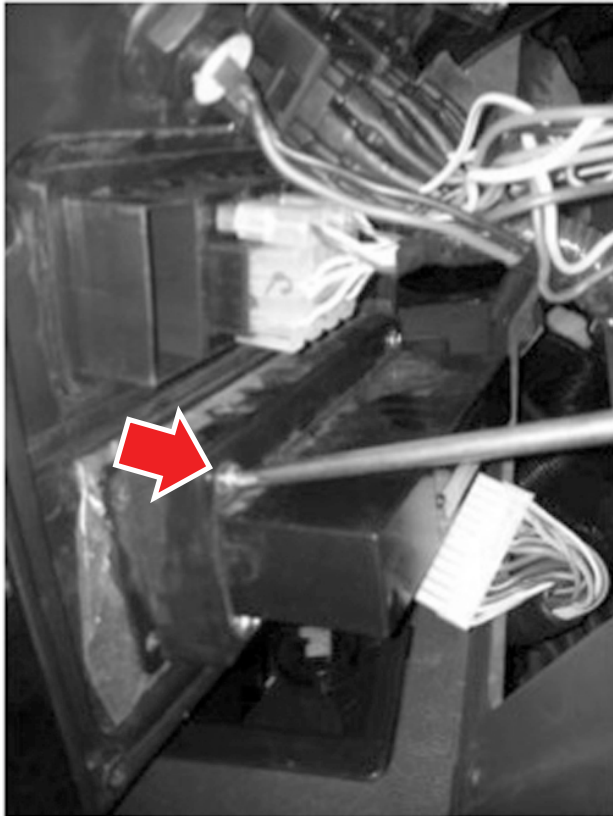

Figure 24-1
1. Remove the four screws affixing the clamp bracket to the rear of the HVAC controller (see *Figure 24-1*).